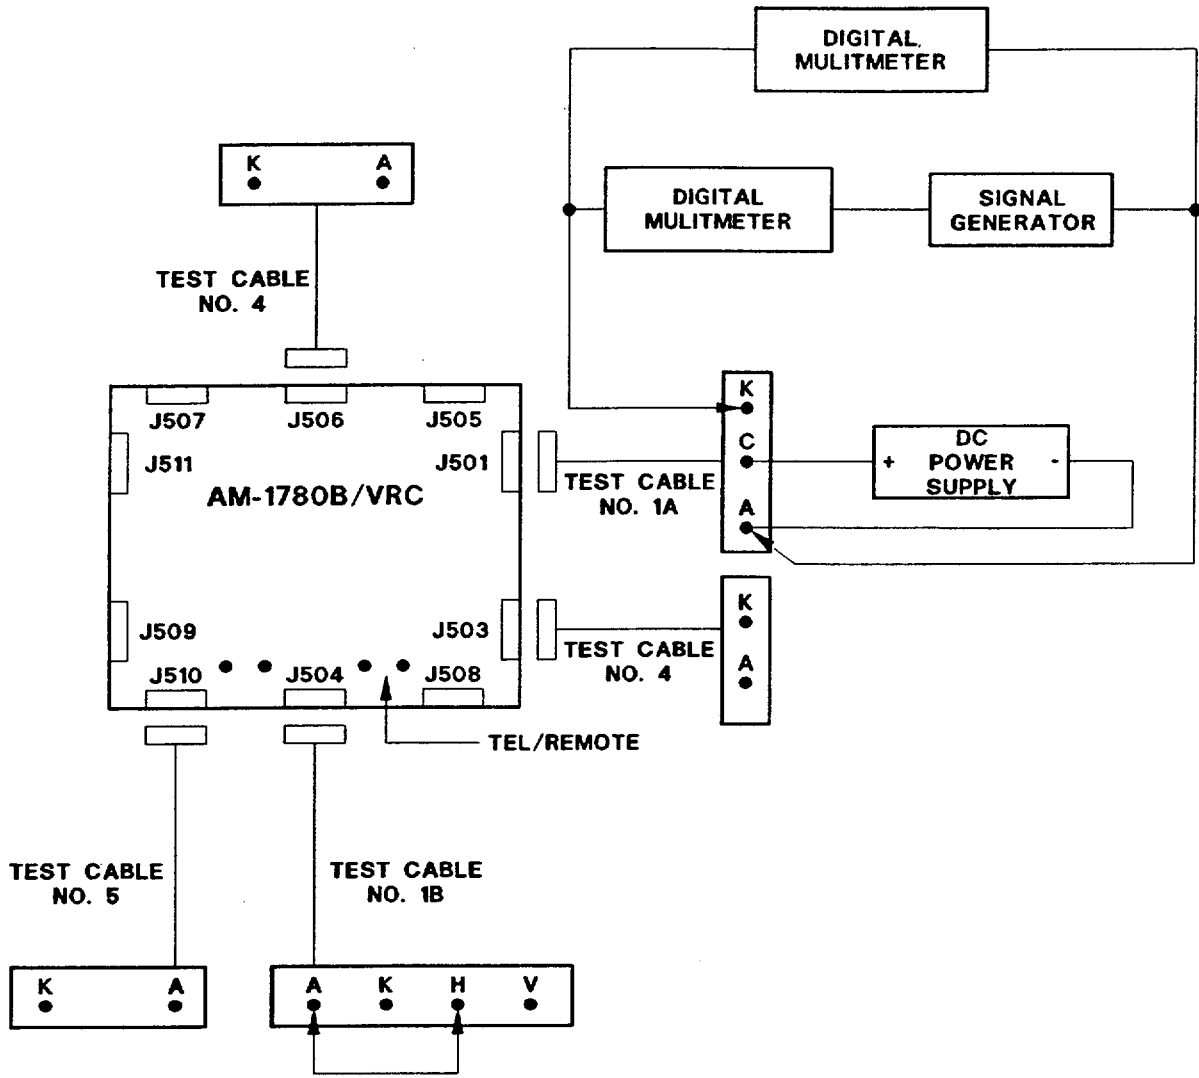

Figure 2-6. DS Test Setup F.
- c.** Connect the signal generator and a digital multimeter, in series, to J501 - K as shown in figure 2-6; set this digital multimeter to measure current.